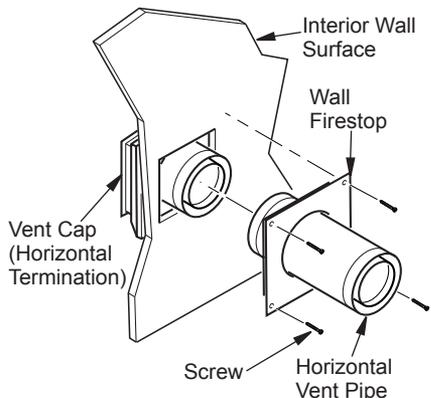

Figure 12 - Connecting Vent Cap with Horizontal Vent Pipe
6. **Combustible Exterior Wall Only:** Slide the wall firestop over the vent pipe before connecting horizontal run to vent cap (see Figure 12).